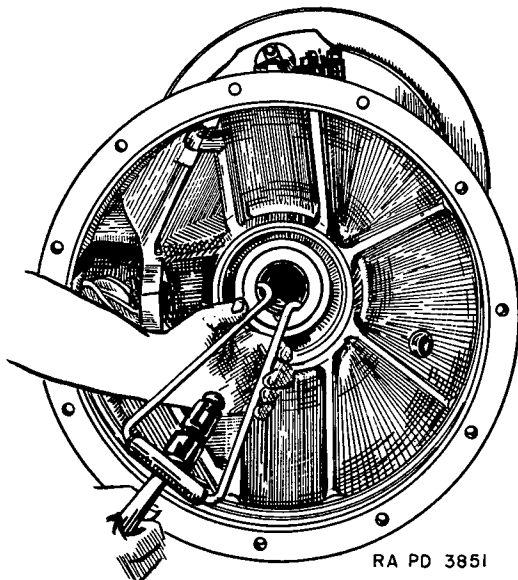

FIGURE 32.—Front axle tube oil seal removal.
(10) Remove oil seals—seal remover. Pull oil seals (A225894) from axle housing at differential end (fig. 32).